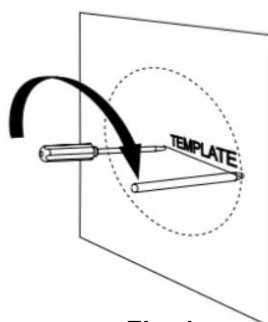

Fig. 1
3. Cut an installation hole into the wall or ceiling using the provided template as a guide. (Fig.1)